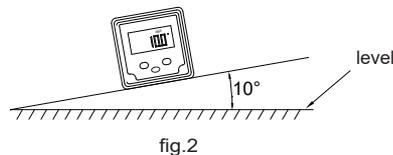

fig.2
- Put the instrument on the measured surface, the reading(fig.2) is the angle between the measured surface and the level when 'ABS' shows on the screen.